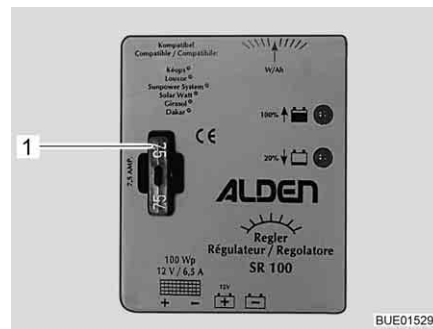

Fig. 170 Solar charge regulator fuse 100 W
- Replace flat fuse 5 A/light brown (Fig. 170,1).